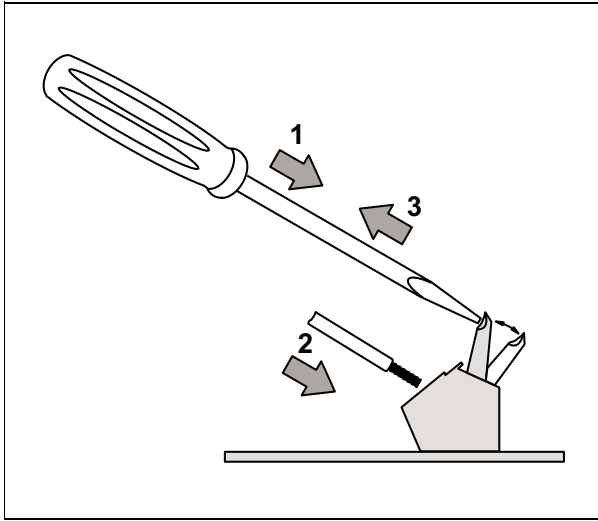

Fig.3 Cable Insertion with Screwless Spring Loaded Terminals
Release the pressure (3) on the spring element (Fig. 3).